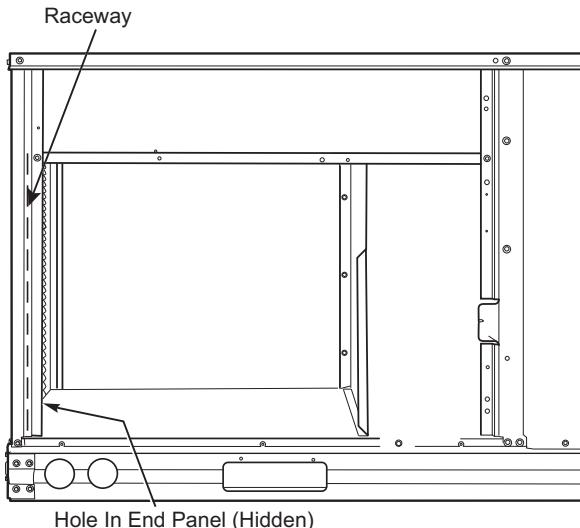

Fig. 43 — Field Control Wiring Raceway
All low-voltage wiring should be routed through the provided raceway (see Fig. 43) built into the corner post of the unit or secured to the unit control box with the electrical conduit in order to provide UL-required clearance between high-voltage and low-voltage wiring.
Pass the thermostat control wires through the hole provided in the corner post; then feed the wires through the raceway built into the corner post to the control box. Pull the wires over to the terminal strip on the lower-left corner of the SystemVu MMB. See Fig. 43. NOTE: If thru-the-bottom connections accessory is used, refer to the accessory installation instructions for information on routing power and control wiring.
2. Feed wires through the raceway built into the corner post (see Fig. 43) to the 24v barrier located on the left side of the control box. The raceway provides the UL-required clearance between high-voltage and low-voltage wiring.